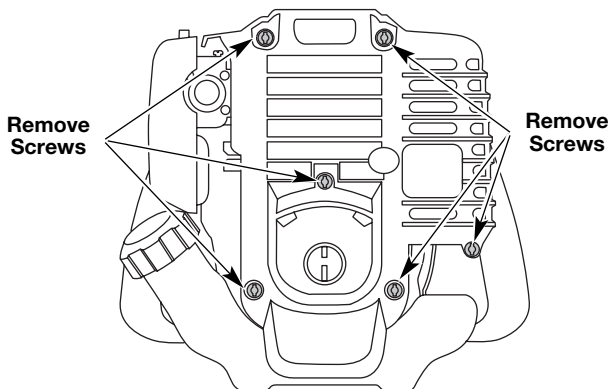

Fig. 34
6. Remove the six (6) screws on the back of the engine cover with a Flat-head or T-25 Torx screwdriver (Fig. 34).
9. Remove the engine cover (Fig. 34).